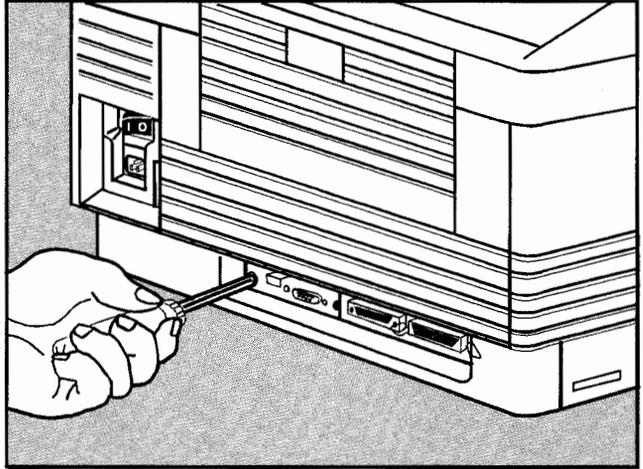

Figure 3-22. Securing the Token Ring Adapter Card
9. Once the card's faceplate is flush with the printer, tighten both screws to secure it (Figure 3-22).